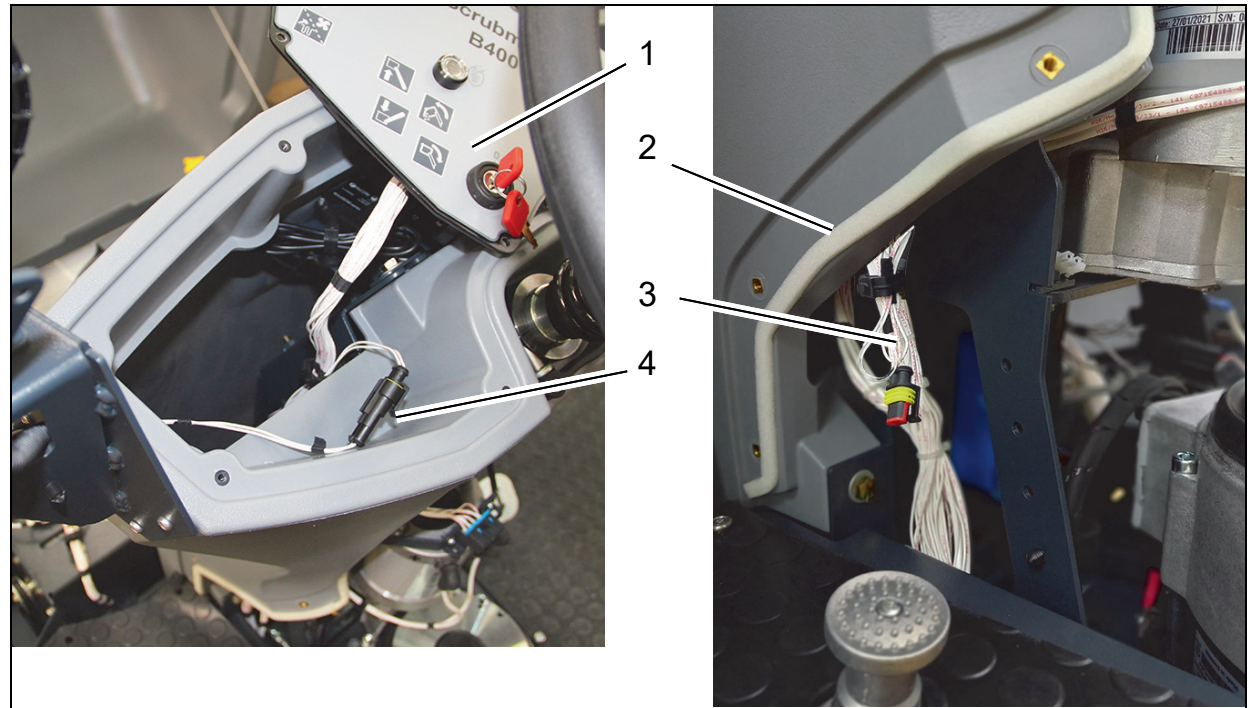

Fig. 3
1. Remove the control panel (Fig. 3/1).
2. Remove the engine cover at the steering column (Fig. 3/2).
3. Undo the cable loops (Fig. 3/3) at plug E14/cable loom W3.
4. Route plug E14 upwards and connect it to plug XE14 of the BlueSpot (Fig. 3/4).